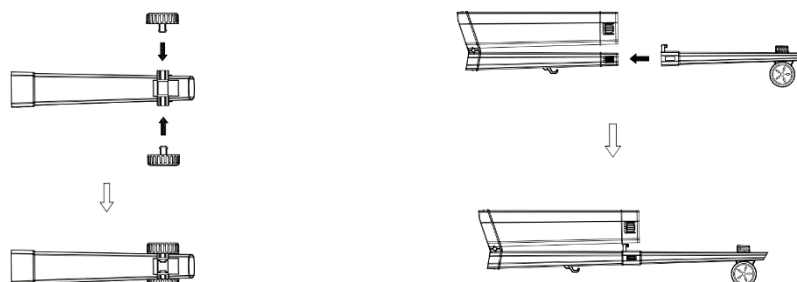

Fig. 2
4. Assemble wheel and blower/suction tube (Fig.2 Fig.3 Fig.4 Fig.5)
- Pull out two wheels and blower tube, holding blower tube and install two wheel, refer to Fig.2.